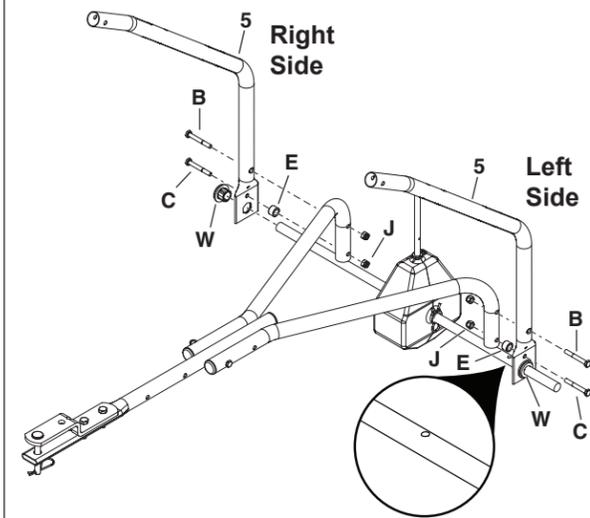

Figure 3
STEP 3: (SEE FIGURE 3)
- Assemble the axle/gear assembly and hopper. Insert the hex bushings (W) into the ends of the hopper support tubes (5).
- Assemble the axle/gearbox assembly and hopper support tubes (5) to the hitch support tubes as shown using two 1/4" x 2-1/2" hex bolts (B), two 1/4" x 2" hex bolts (C), spacers (E), and 1/4" nylock nuts (J). **Do not tighten completely.**